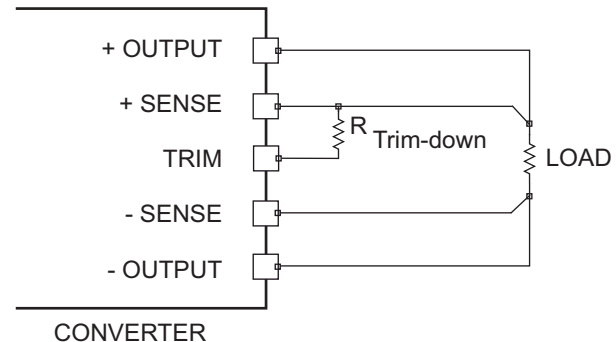

Figure 4.
(2) Trim down output voltage: Connect a resistor or potentiometer between "Trim" pin and "+Sense" pin, if there is remote sensing function. Or between "Trim" pin and "+Output" pin if there is no remote sensing function. See Fig. 4. Place the resistor or potentiometer as close to the two pins as possible.